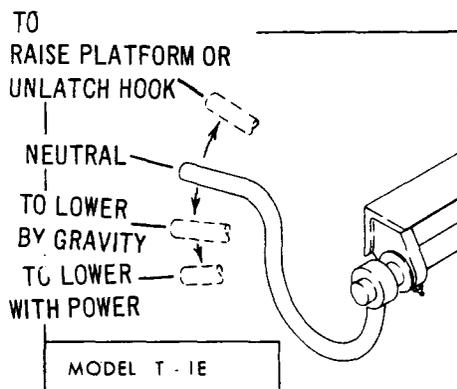

Fig. 13
13.03 The control for raising or lowering platform is located on extreme right rear corner of truck or trailer. Refer to Fig. 13 or 14 for the following operations:
(a) Lower gate by lifting control handle to release hook, then push handle down to "lower" position. Model T-1E has two "lower" positions. (See Fig. 13.)